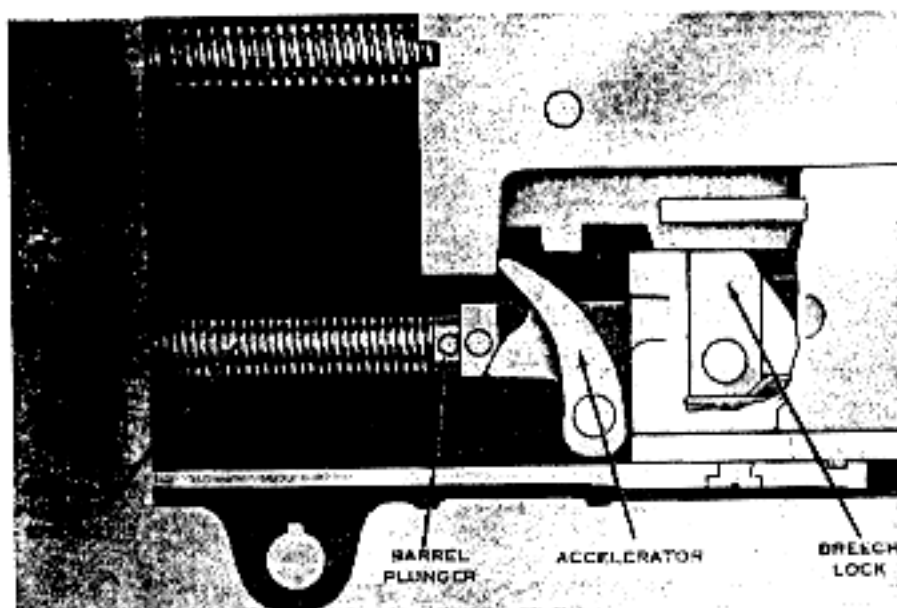

Figure 70. Barrel plunger spring compressed.
c. *Third Phase* (fig. 70). As the barrel extension moves to the rear, the barrel plunger spring is compressed by the barrel plunger stud acting against the barrel plunger; the energy produced later helps drive the barrel extension forward. The barrel plunger spring is held compressed by the claws of the accelerator which engages the T-lug and lock the barrel extension to the lock frame. The accelerator stop prevents the accelerator from turning too far to the rear.